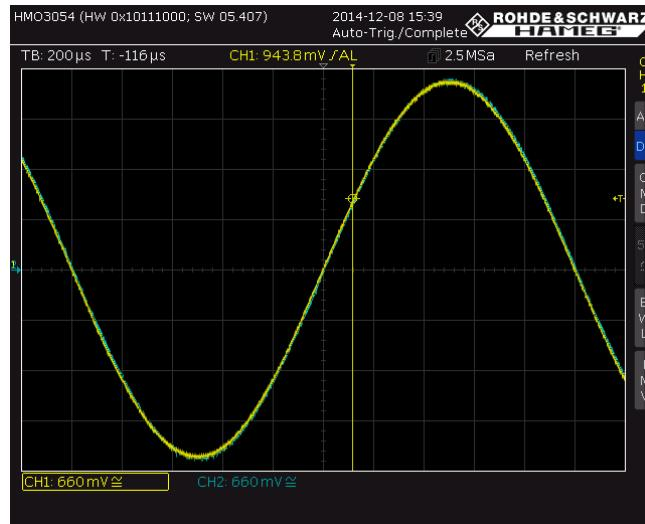

Fig. 2-38: Superimposed display of CH1 and CH2.
- Use the *TIME/DIV* rotary knob to change the y deflection until a complete signal oscillation is visible. Use the horizontal position rotary knob to shift the signal until it passes through the zero crossing (Fig. 2-38).
- As described in 1.1, the capacitor represents an infinitely high resistance at low frequencies, so that the entire voltage is received at the capacitor ($u_{in}=u_{out}$). As is to be expected, the output voltage has no phase response (Fig. 2-38).